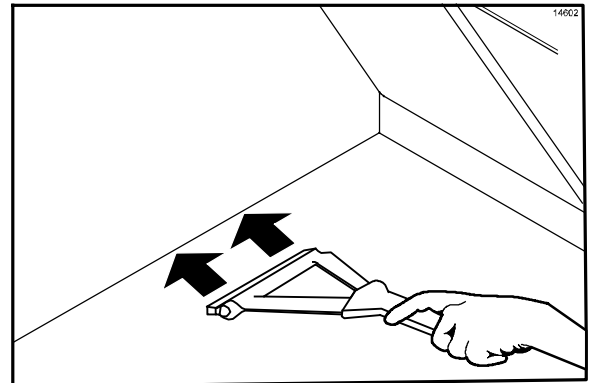

Figure 85
11. Use the grill squeegee to push residual grease into the grease pans. (See Figure 85.)